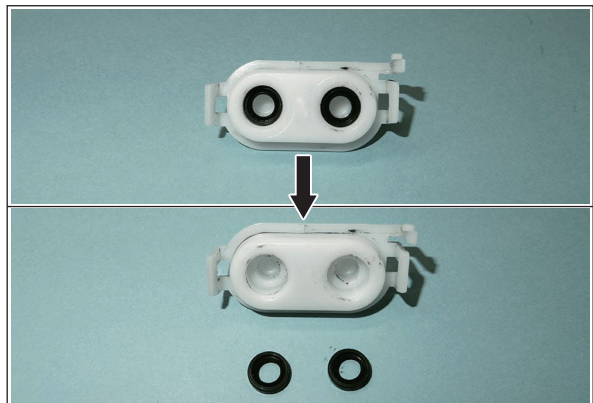

Fig. 4-173
- (6) Push in a new oil seal parallel to the frame or bushing (Refer to Fig.4-173).
- (7) Apply the grease (Alvania No.2; amount of 2 rice grains) on entire surface of the oil seal evenly.